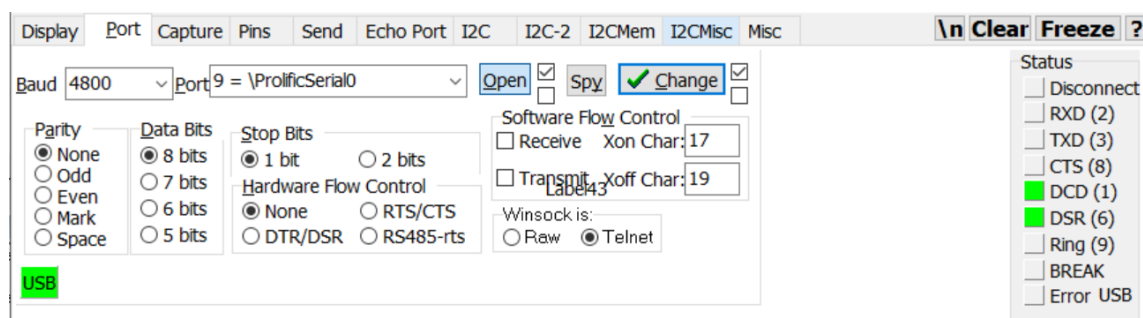

Figure 3: RealTerm: Baudrate
- iv) Configure **Realterm** (or equivalent tool) to use the appropriate COM port and baud rate. This can be done by clicking on **Serial Port/Port** tab and choosing appropriate COM port as the port to which the USB-to-UART adapter is connected. Set the baud rate to 4800 (the baud rate you have used in your program). Then click on **Open**. A screenshot of **Realterm** window with port and baudrate setting is shown in Figure 3.